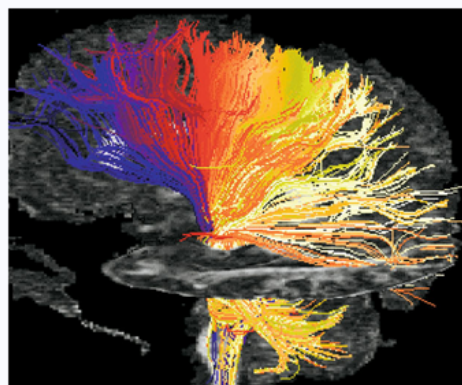

Figure 2: Tractography image of corona radiata
Figure 2: CT axial image is not able to diagnose brain haemorrhage (A) whereas MRI images are able to evaluate cerebral haemorrhage (B), (C), (D), (E) and BB inverted image (F)